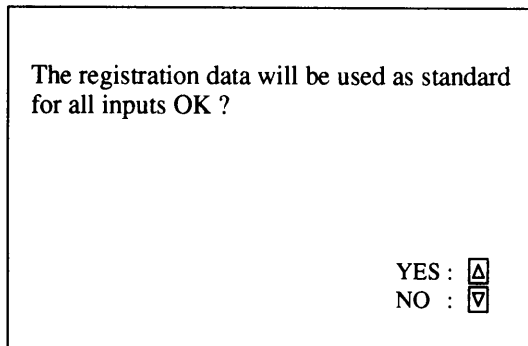

Figure 8
1. Keep pressing the MEMORY key for 5 seconds or longer and confirm that the message as shown in Figure 8 appears.